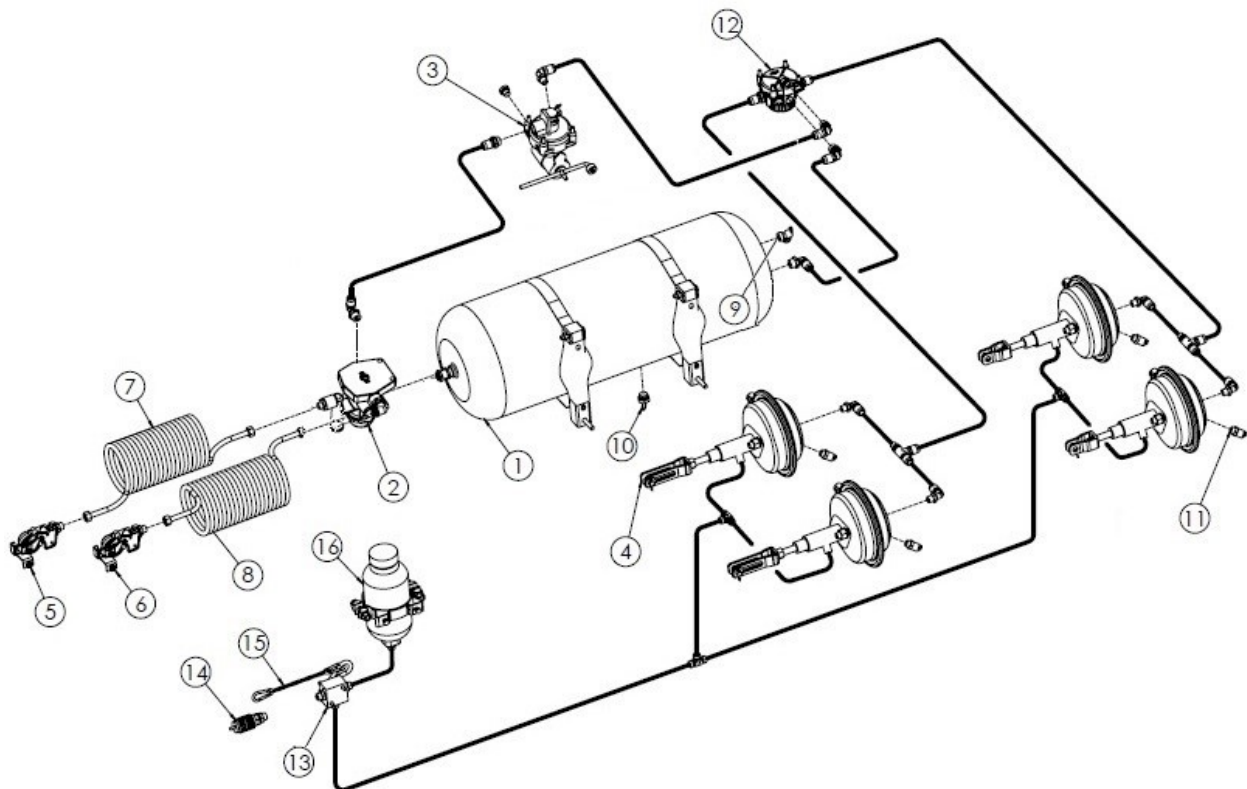

Figure 14 The hydraulic pneumatic braking system with ALB
- pneumatic hydraulic braking system with ALB valve (Figure 14)
Another option for the braking system is the hydraulic pneumatic braking system with ALB - Figure 14. This system is a combination of hydraulic and pneumatic 2-line braking with the ALB (manual brake-force control). Whether you can connect the hydraulic or pneumatic braking system depends on the type of trailer brakes the tractor is equipped with.